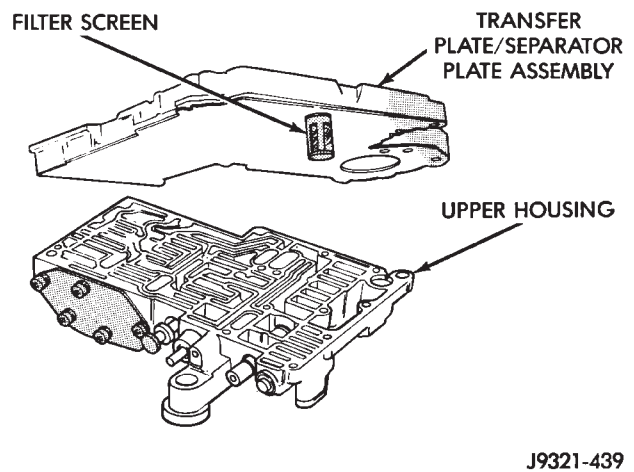

Fig. 82 Installing Transfer Plate On Upper Housing
(2) Position assembled transfer plate and upper housing separator plate on upper housing (Fig. 82). Be sure filter screen is seated in proper housing recess.